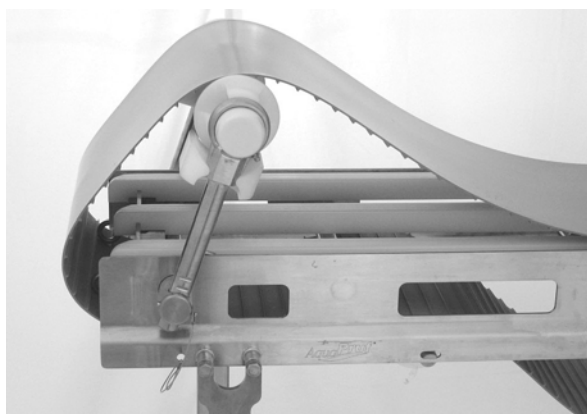

Figure 46
1. Place the idler tail assembly in the UP position (**Figure 46**).